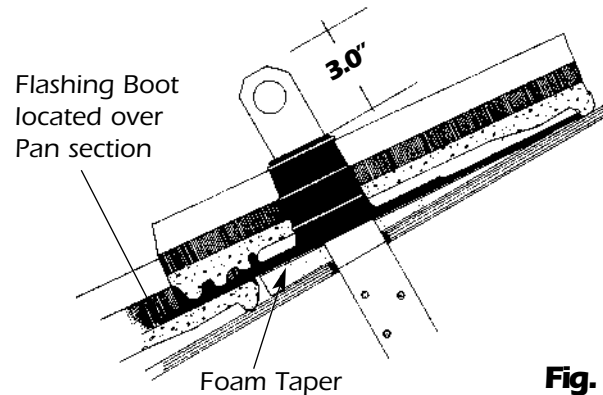

Fig. 10b
- 2) Anti-ponding support under the flashing base can be provided by foam taper, concrete mortar, or other moisture resistant type material. See Fig. 10b above.